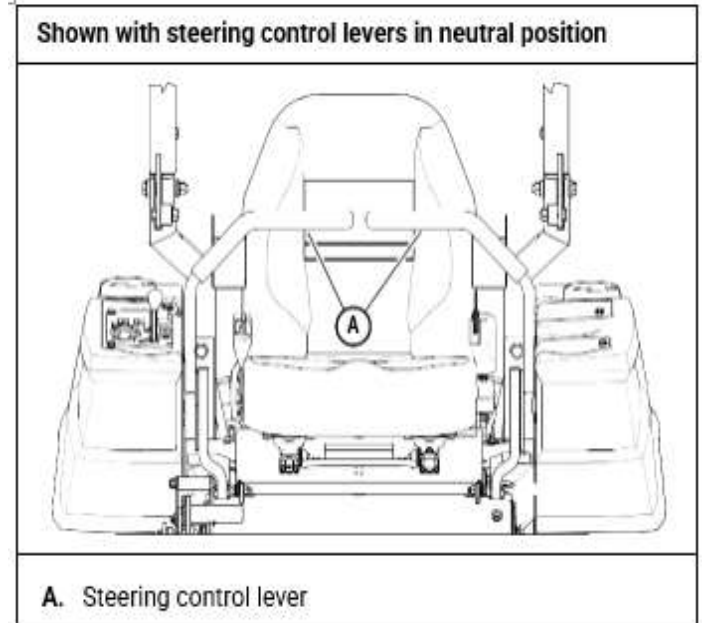
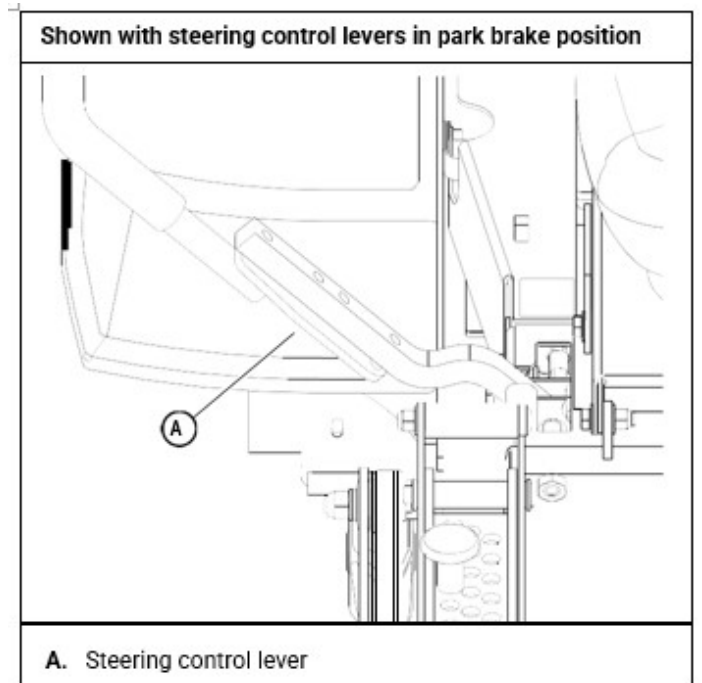

Figure 4
Figure 5
A. **Steering control levers** [Figure 4] & [Figure 5] — these levers control the P-REX’s speed, direction, stopping, and park brake.